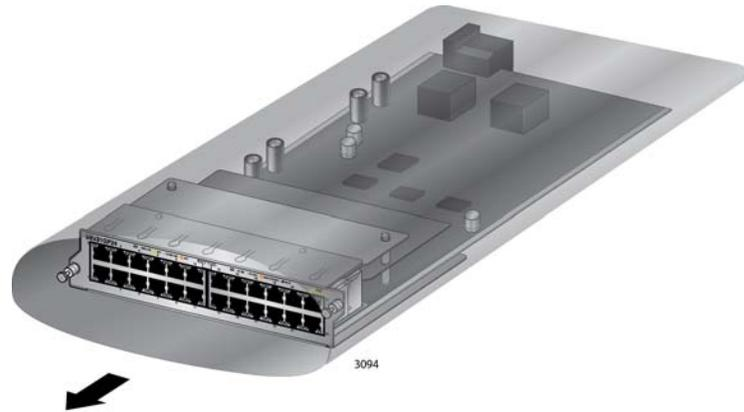

Figure 74. Removing an Ethernet Line Card from an Anti-static Bag
3. Carefully remove the Ethernet line card from the anti-static bag. Refer to Figure 74.